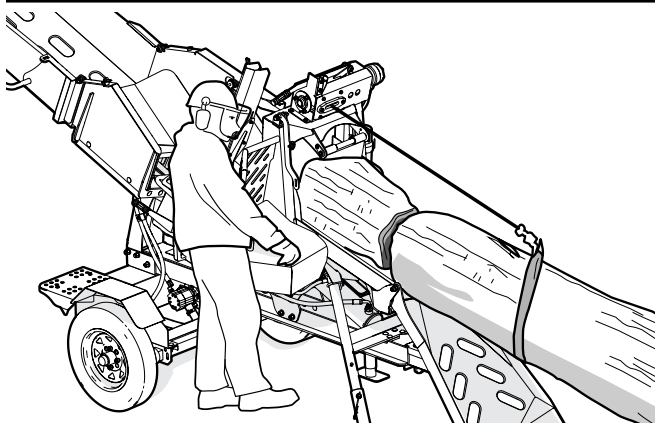

Figure 41 – Use the next log to push the current log
7. Attach the hook to the winch strap. See *Figure 41*.